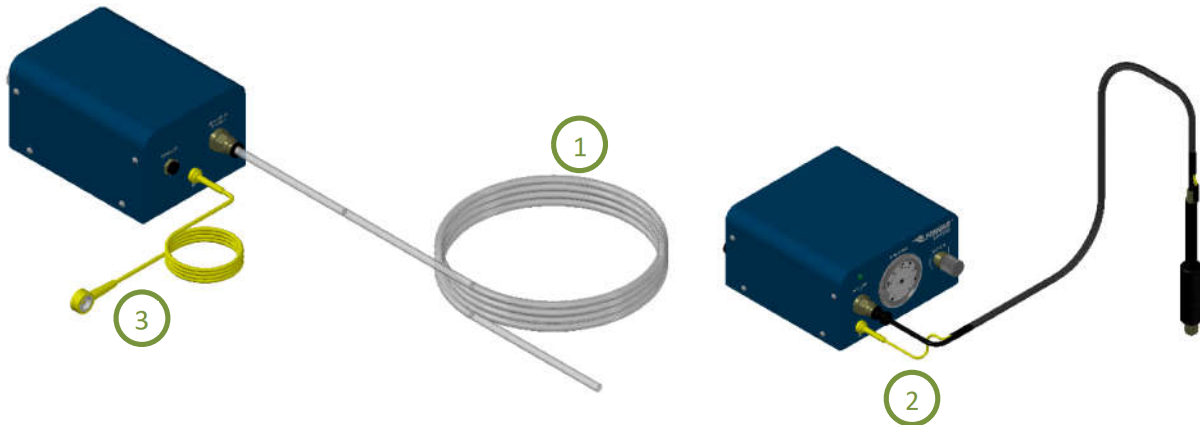

FIG. 4: Machine Setup
1.	Connect air hose (1) from compressed air 70-100 psi (5-7 bar) to the air inlet port on the back of the machine. See FIG. 4.
2.	<p>Insert the air connector and ESD grounding plug (2) from the vacuum pickup pen to the ports on the front of the machine. See FIG. 4.</p> <p>If using optional vacuum pickup pen (#580046) only the air connector will need to be attached to the port on the front of the machine.</p>
3.	<p>Insert the ESD grounding cable (3) into the port on the back of the machine. The other end of the cable is to be connected to a suitable common ESD Safe grounding point within the workplace environment. See FIG. 4.</p> <p>If there is no requirement for the machine to be used in an ESD Safe work environment, this step can be ignored.</p>